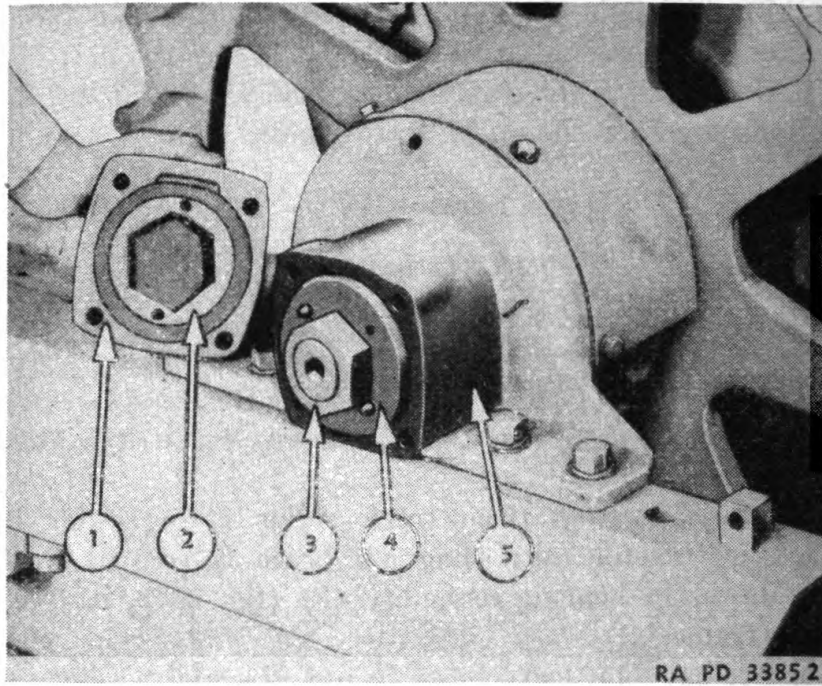
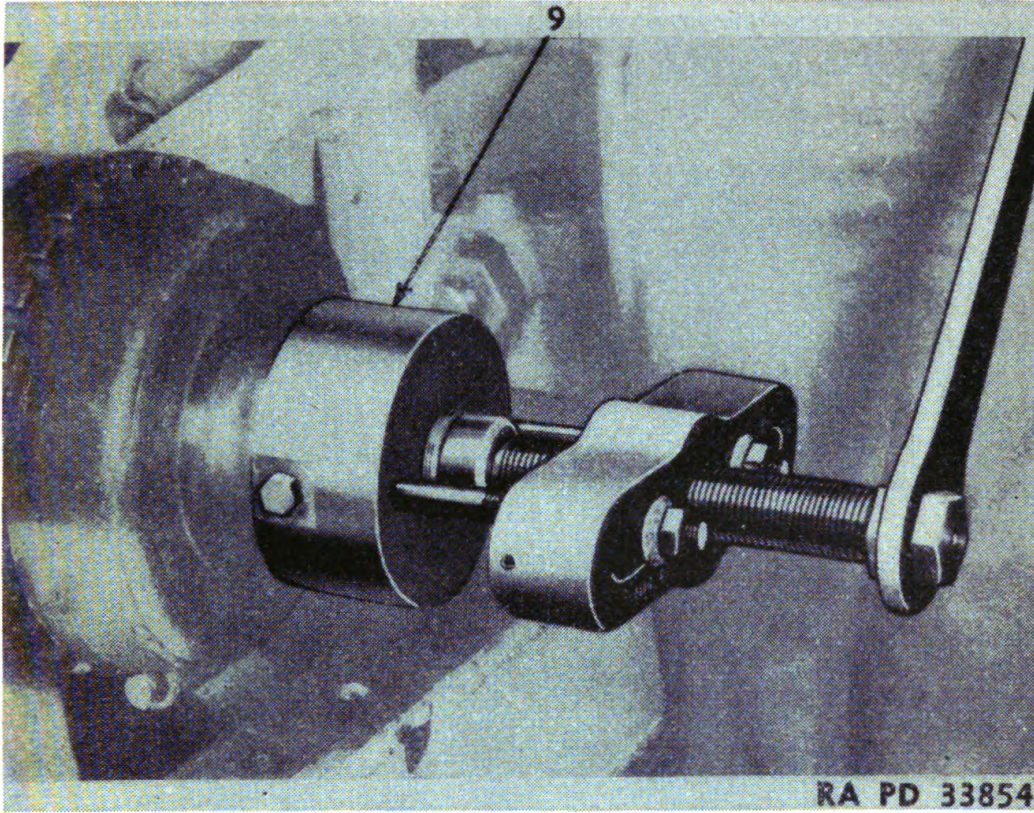
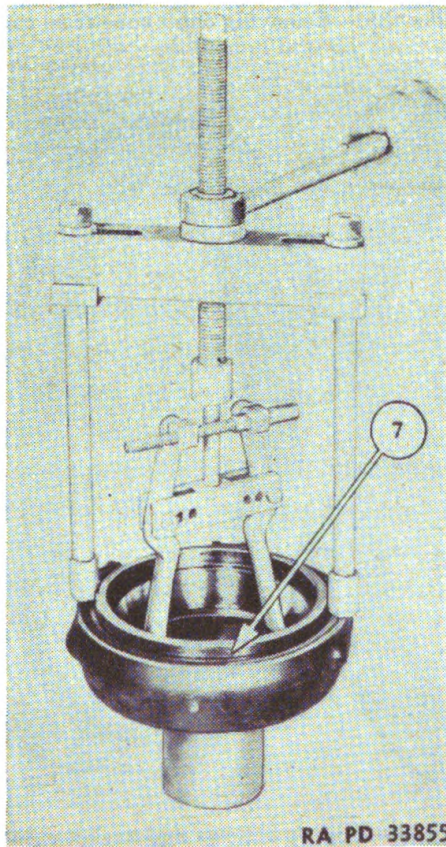
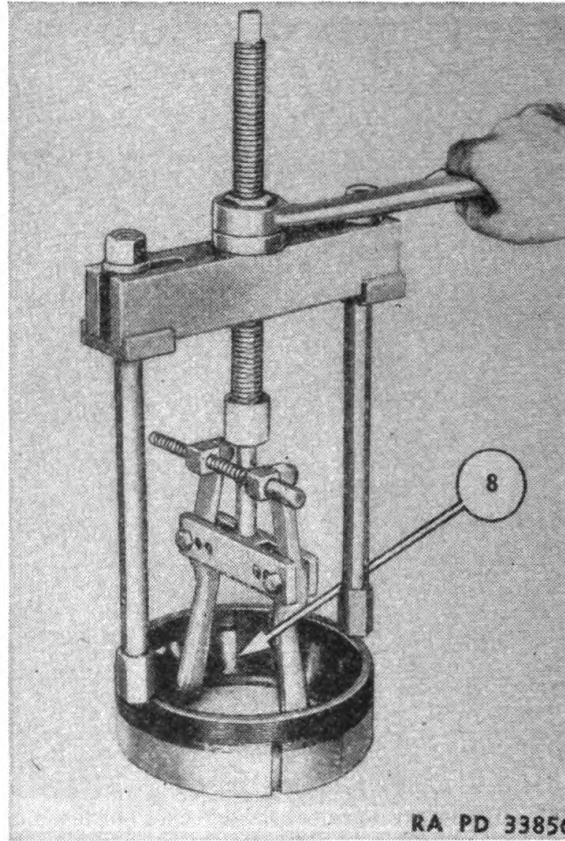

FIGURE 135.—Cap, lock ring, and washer assembly.
FIGURE 137.—Puller arrangement for sprocket hub bearing holder.
FIGURE 138.—Method of cage removal.
FIGURE 139.—Removing outer cone from cage.
(2) Remove capscrews from track roller frame outer bearing.
(3) Jack up tractor until diagonal brace is free of final drive shaft and dowel in bearing assembly (5) (fig. 135), is free of the track roller frame.
(4) Remove cap (1), lock ring (2), nut (3), and washer assembly (4), (fig. 135). Nut (3) is 2⁵/₁₆-inch, for which wrench L2075 is available.
(5) The shims (6) fig. (136), behind washer (4) are for alining the track roller frame centrally with the sprocket.
(6) When properly adjusted, the rear roller in the track roller frame will be centered with relation to the sprocket.
(7) Removing shims will allow the roller frame to move toward the center of the tractor; adding shims will move the roller frame out.
(8) If more than .020 inch in feeler gage thickness can be inserted between the bushing in bearing assembly (5) and the hub of bearing cage holder (9) (fig. 137), a new bushing should be used.
b. Bearing cage holder assembly.—Use the puller arrangement for sprocket hub bearing holder (9).
c. Bearing cage.—(1) Unscrew final drive adjusting nut from cage holder. Pull cage (7) (fig. 138) from the holder using the CAT8B7548 and CAT8B7554 pullers as shown. The same combination will pull outer cone (8) (fig. 139) from the cage.